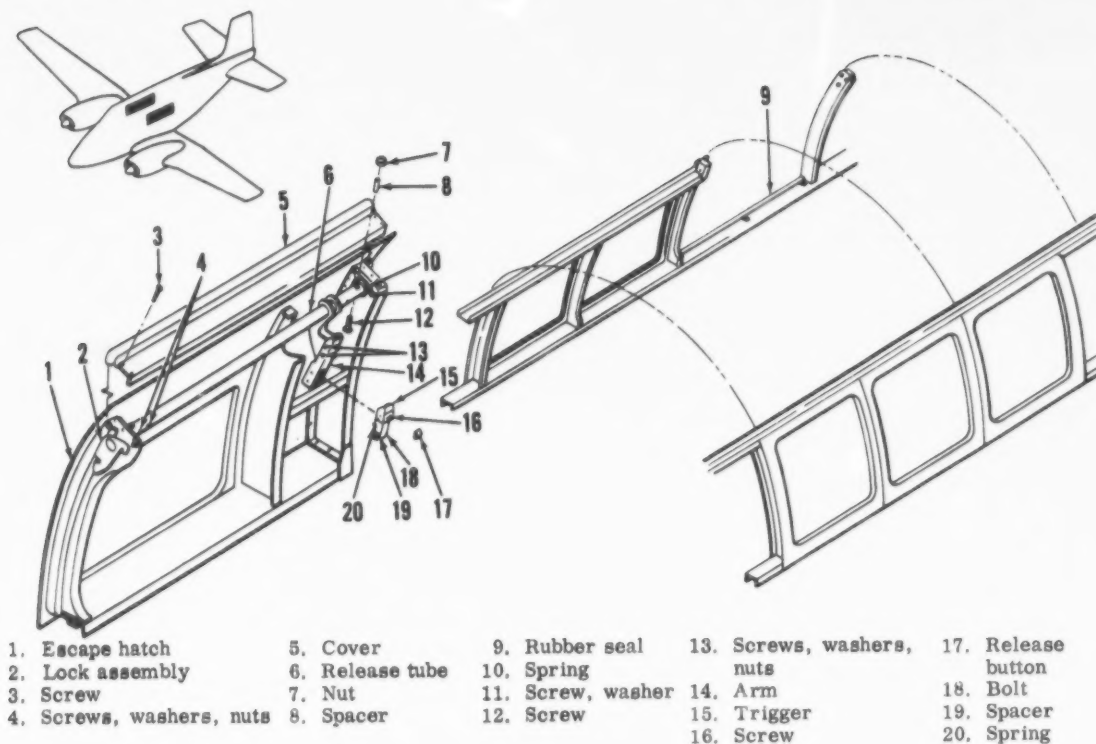

Figure 4-28. Emergency escape hatch (U-8F)
(5) Remove rubber seal (9, figure 4-28) in accordance with paragraph 4-50.
b. Disassembly. (1) Remove upholstery panel, red safety panel, and release handle escutcheon from escape hatch by removing screws that secure them.
(2) Remove screws (3, figure 4-28) securing metal cover (5) to escape hatch (1).
(3) Remove screws and washers (11), screws (12), spacers (8), and nuts (7) that secure springs (10) at each end of release tube (6).
(4) Remove screws, washers, and nuts (4), from each end of release tube (6). Remove lock assembly (2) from each end of release tube (6).
(5) Lift release tube (6) out of escape hatch (1), and slide springs (10) from release tube.
(6) Remove screws, washers, and nuts (13) securing arm (14) to braze assembly on release tube (6). Remove arm.
(7) Remove trigger (15) from arm (14) by removing bolt (18). Remove spring (20) and spacer (19).
(8) Remove release button (17) from trigger (15) by removing screws (16).
c. Cleaning. (1) Clean metal parts with dry cleaning solvent (item 6, table 1-8) and dry with compressed air.
(3) Inspect area where rubber seal is to be attached in accordance with paragraph 4-50.
f. Reassembly. (1) Secure release button (17, figure 4-28) to trigger (15) with screws (16).
(2) Secure trigger (15), spring (20), and spacer (19) to arm (14) with bolt (18).
(3) Secure arm (14) to braze assembly on release tube (6) with screws, washers, and nuts (13).
(4) Position springs (10) over each end of release tube (6), and place release tube in escape hatch (1).
(5) Position lock assembly (2) in each end of release tube (6) and secure with screws, washers, and nuts (4) at each end of release tube.
(6) Secure springs (10) to each end of release tube (6) with screws and washers (11), screws (12), spacers (8), and nuts (7).
(7) Position metal cover (5) on escape hatch (1) and secure at each end with screws (3).
(8) Install release handle escutcheon, red safety panel, and upholstery panel and secure with screws.
g. Installation. (1) Install rubber seal (9, figure